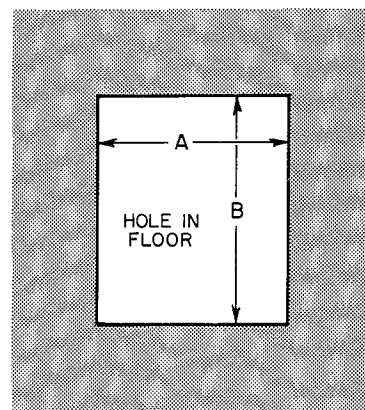

Fig. 4—Floor Opening for Concrete Slab
- Construct hole in floor per dimensions in Fig. 4 and Table 3.